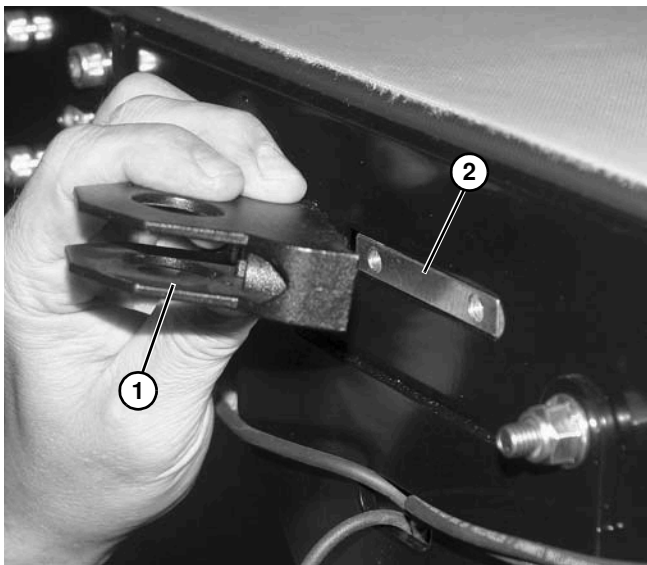

Figure 47
3. Position mounting bracket (**Figure 47, item 1**) onto tee bar (**Figure 47, item 2**).